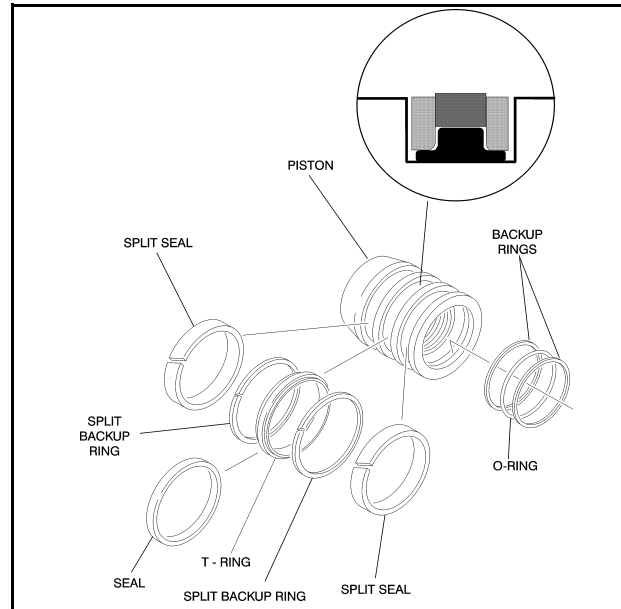

Figure 5-17. Piston Seal Kit Installation.
NOTE: The backup rings for the solid seal have a radius on one side. This side faces the solid seal. (See magnified insert in Figure 5-17.) The split of seals and backup rings are to be positioned so as not to be in alignment with each other.
16. Place new guide locks and seals in the applicable outside diameter grooves of the cylinder piston. (See Figure 5-17., Piston Seal Kit Installation.)